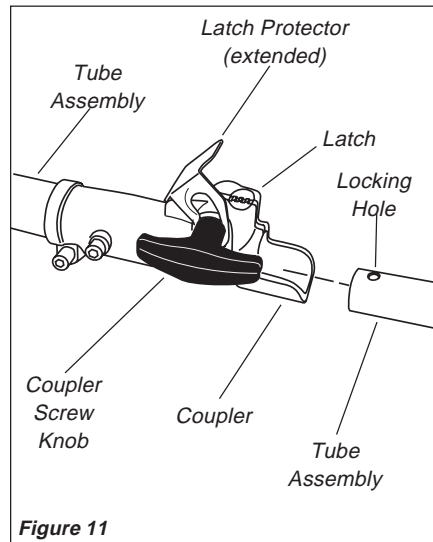

Figure 11
3. Insert the upper tube assembly into the coupler, arrow on the upper tube decal facing up, until the line of the decal is flush with the end of the coupler. Rock the upper tube back and forth until you are sure the latch snaps in place by the coupler lock. See Figure 11.